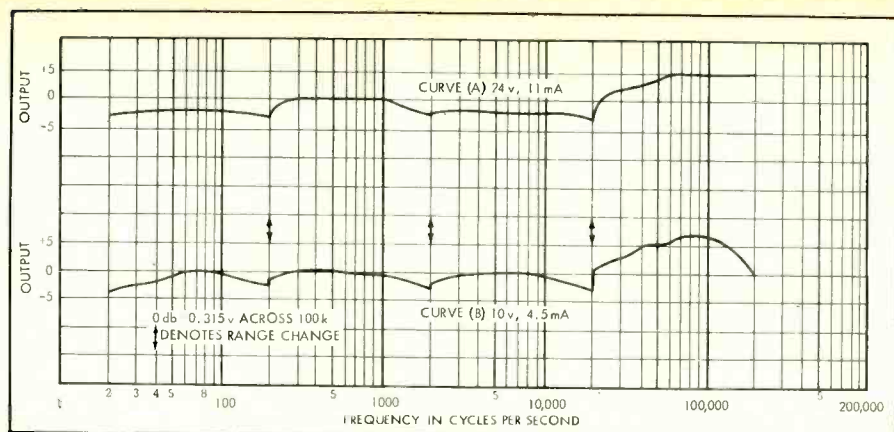

Fig. 5. Oscillator response using 2N247 or 2N1396 transistors at two different supply voltages.
Figure 5 depicts the amplitude stability of the oscillator. Note the curve, (A). The output is constant